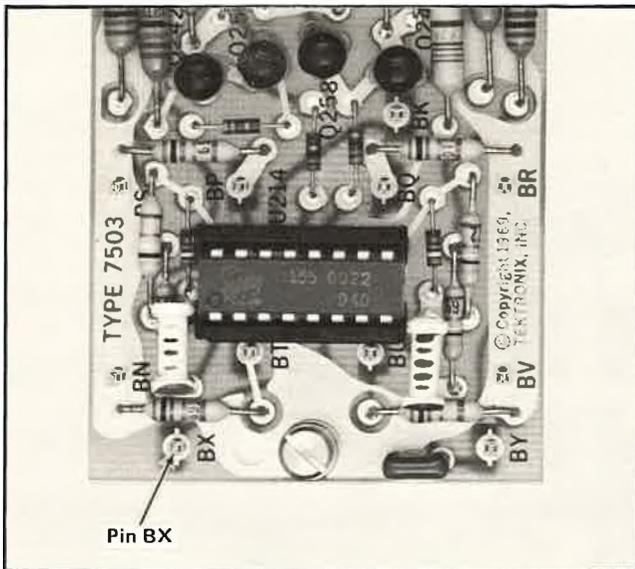

Fig. 5-13. Location of pin BX on Vertical Interface circuit board.
e. Connect the 10X probe tip to pin BX on the Vertical Interface circuit board (see Fig. 5-13).